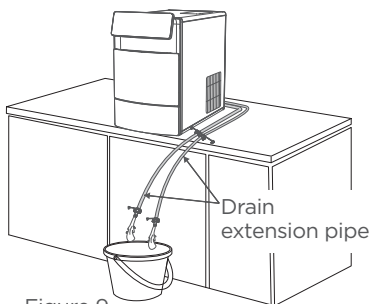

Figure 9
- 1.8 Remove the silicone stopper of the drain extension pipe, drain the water into the prepared water bucket, and plug the stopper again (see Figure 9).